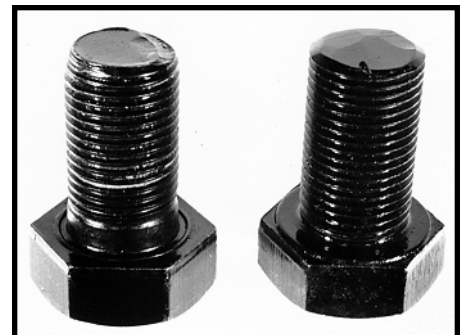

Figure 44
**NOTE: These bolts are special because they are equipped with either a ring or washer design on the underside of the head. SEE FIGURE 44. If you replace one or more bolts, you must use bolts of either design and of the SAME SPECIAL TYPE AND LENGTH AS THOSE YOU REMOVED. Do not use a substitute. You can get these bolts through your OEM parts distributor.**